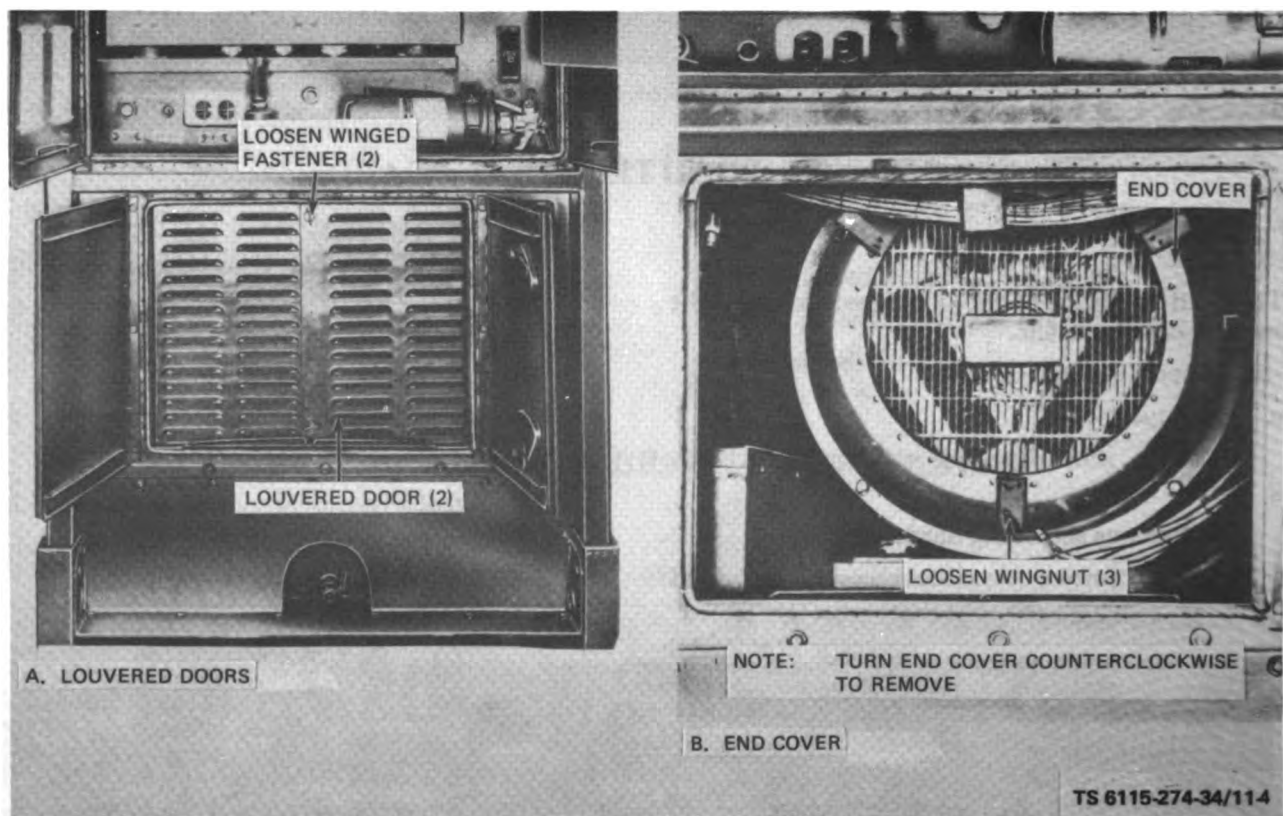
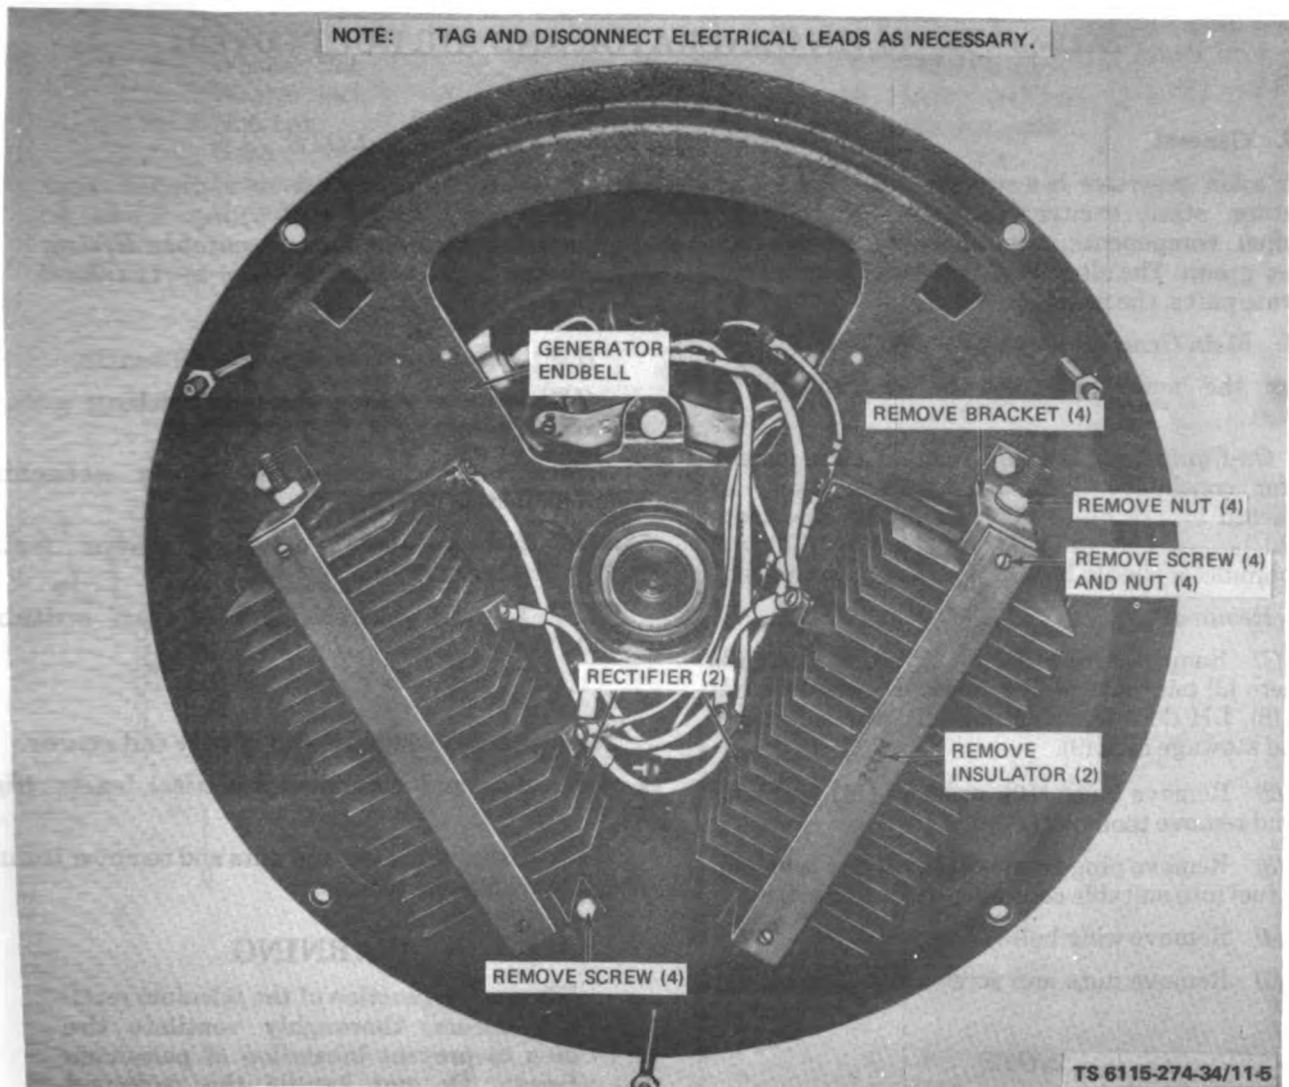

Figure 11-4. End Cover, Removal and Installation
Figure 11-5. Static Exciter Rectifiers, Removal and Installation
(1) Remove the main generator end cover (fig. 11-4).
(2) Loosen winged fasteners and remove louvered doors.
(3) Loosen wingnuts and remove end cover.
(4) Tag and disconnect electrical leads (fig. 11-5).
(5) Remove screws and nuts and remove insulators.
(6) Remove screws and nuts and remove brackets and rectifiers.
(1) Install brackets (fig. 11-5).
(2) Install insulators.
(3) Connect electrical leads.
(4) Install end cover (fig. 11-4) and tighten wingnuts.
(5) Install louvered doors and tighten winged fasteners.
(1) Loosen wingnuts and remove end cover.
(2) Tag and disconnect electrical leads (fig. 11-5).
(3) Remove screws and nuts and remove insulators, brackets and rectifiers.